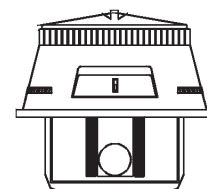

FIG. 3
3. Take off the sponge filter at the bottom of the motor head (see fig. 3). Hand wash it with cold water. Let it dry completely before placing it again in the vacuum cleaner. Never use heat sources to shorten the drying time, this can change its shape.